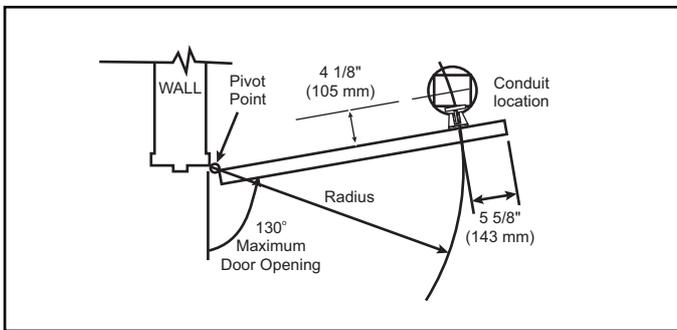

Figure 1. Single Door Conduit Location
1. Measure the door width. Calculate the radius (Figures 1 and 2) by subtracting 5 5/8" from the door width.
2. **Single Door (Figure 1):** Using the radius calculated in step 1, draw an arc (using the pivot point of the door as the center point) through the desired location of the door opening. Open the door and draw a line through the arc 4 1/8" (105 mm) from the pull side